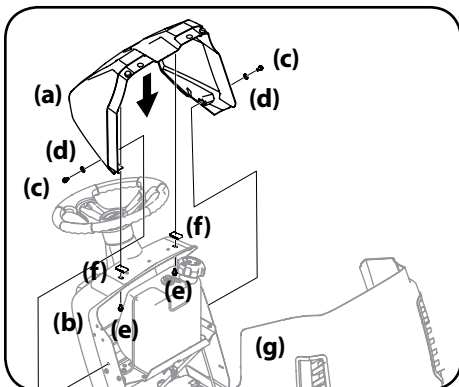

Figure 2-8
- If the dash shroud (a) was shipped loose, the hardware for attaching the dash shroud (a) is shipped installed in the dash shroud (a) and the dash (b). Remove the two bolts (c) and washers (d) from the dash (g) and two bolts (e) and clips (f) from the dash shroud (b). See Figure 2-8.